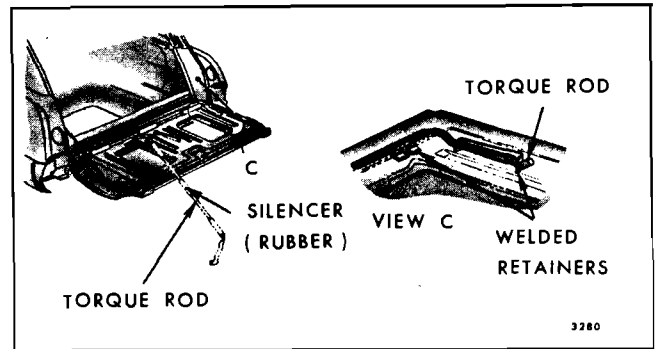

Fig. 9-51—Tail Gate Torque Rod Assembly
- Disengage torque rod from tail gate inner panel retainer (See Fig. 9-51).